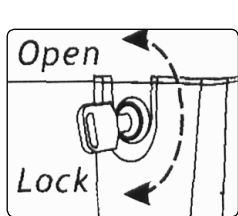

Fig.1
- 3.1 Before moving the tool chest ensure that the drawers are closed and locked (fig.1) to prevent accidental opening.